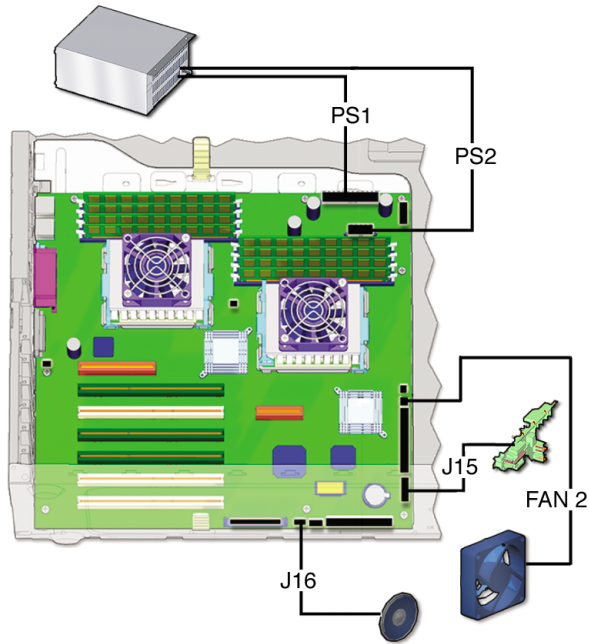

FIGURE 11-44 Installing Motherboard Power Cables
11. Connect power cables to the motherboard (FIGURE 11-44).